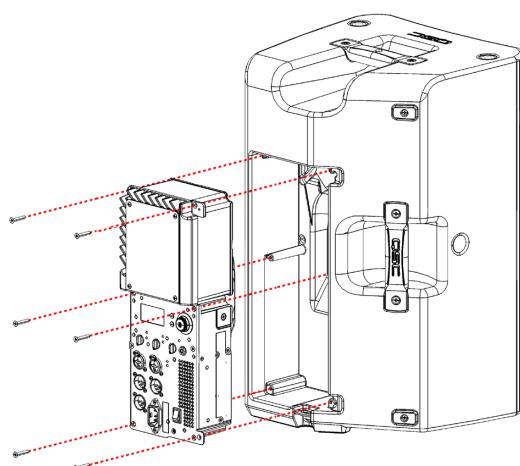

Figure 5.1.2 - Amplifier module with 6 plastite screws.
4. Remove 6 plastite screws that secure the amplifier module to the speaker cabinet. *Only remove the screws noted in Figure 5.1.2.* There are other screws on the faceplate of the amplifier module that do not need to be removed at this stage.
5. Fasten 6 plastite screws that secure the amplifier module to the speaker cabinet. See Figure 5.1.2.